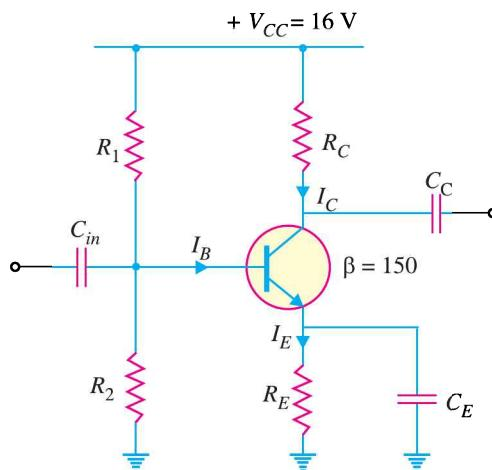

Fig. 9.43
**Example 9.35.** It is desired to design the biasing circuit of an amplifier in Fig. 9.43 in such a way to have an operating point of 6V, 1 mA. If transistor has  $\beta = 150$ , find  $R_E$ ,  $R_C$ ,  $R_1$  and  $R_2$ . Assume  $V_{BE} = 0.7 \text{ V}$ .